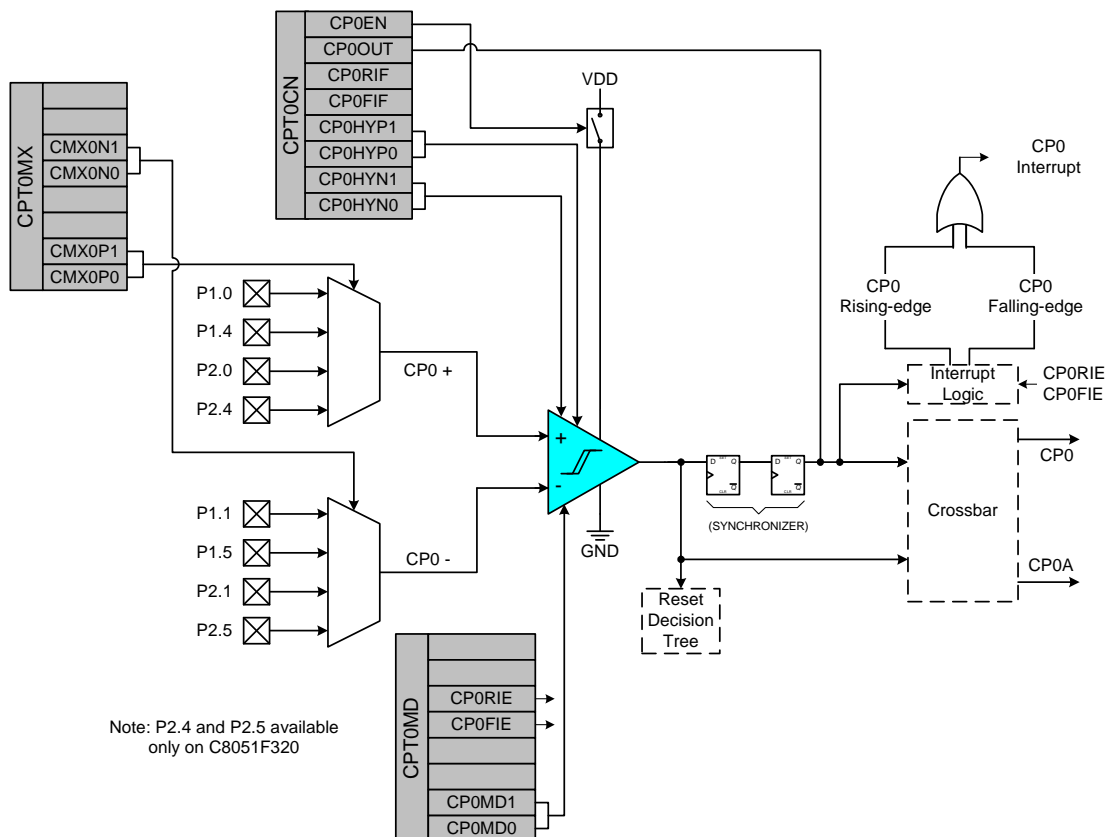
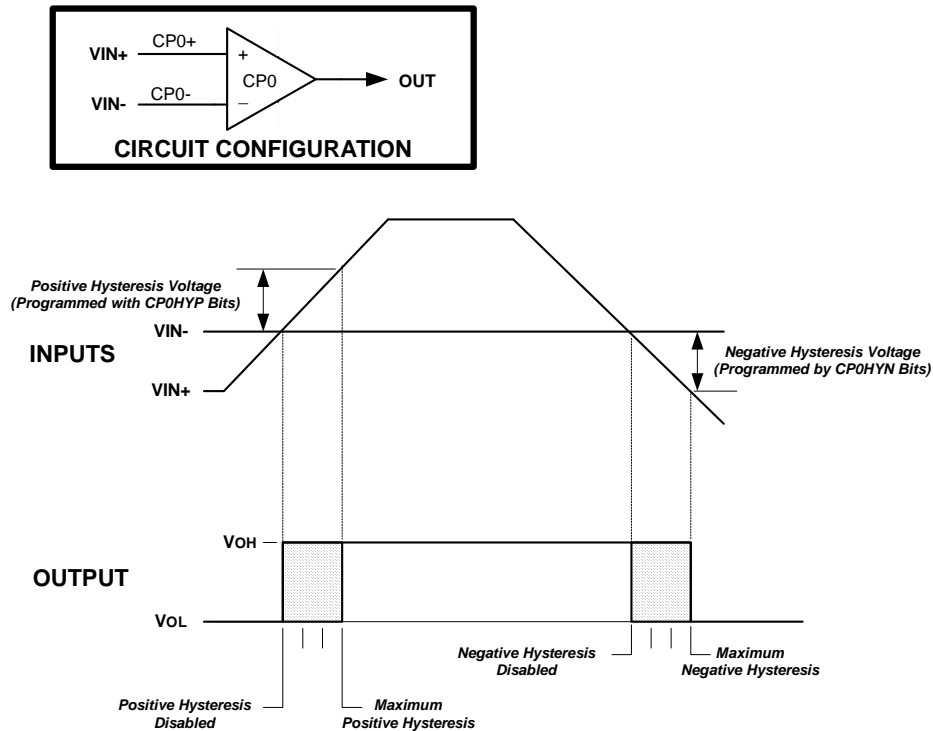

Figure 7.1. Comparator0 Functional Block Diagram
Figure 7.3. Comparator Hysteresis Plot
C8051F320/1 devices include two on-chip programmable voltage Comparators: Comparator0 is shown in Figure 7.1; Comparator1 is shown in Figure 7.2. The two Comparators operate identically with the following exceptions: (1) Their input selections differ as shown in Figure 7.1 and Figure 7.2; (2) Comparator0 can be used as a reset source.
Comparator hysteresis is programmed using Bits3–0 in the Comparator Control Register CPTnCN (shown in Figure 7.1 and Figure 7.4). The amount of negative hysteresis voltage is determined by the settings of the CPnHYN bits. As shown in Figure 7.3, settings of 20, 10 or 5 mV of negative hysteresis can be programmed, or negative hysteresis can be disabled. In a similar way, the amount of positive hysteresis is determined by the setting the CPnHYP bits.